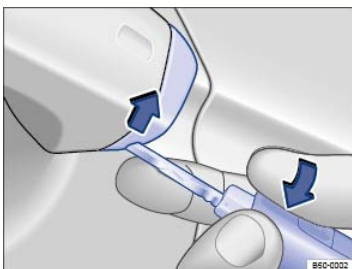

Fig. 171 Door handle on driver door: Concealed lock cylinder.
- Insert the key bit from below into the opening of the cover cap on the driver door ⇒ Fig. 171 (arrow) and lift the cover cap off. Grasping the door handle and pulling slightly makes it easier to remove the cap.